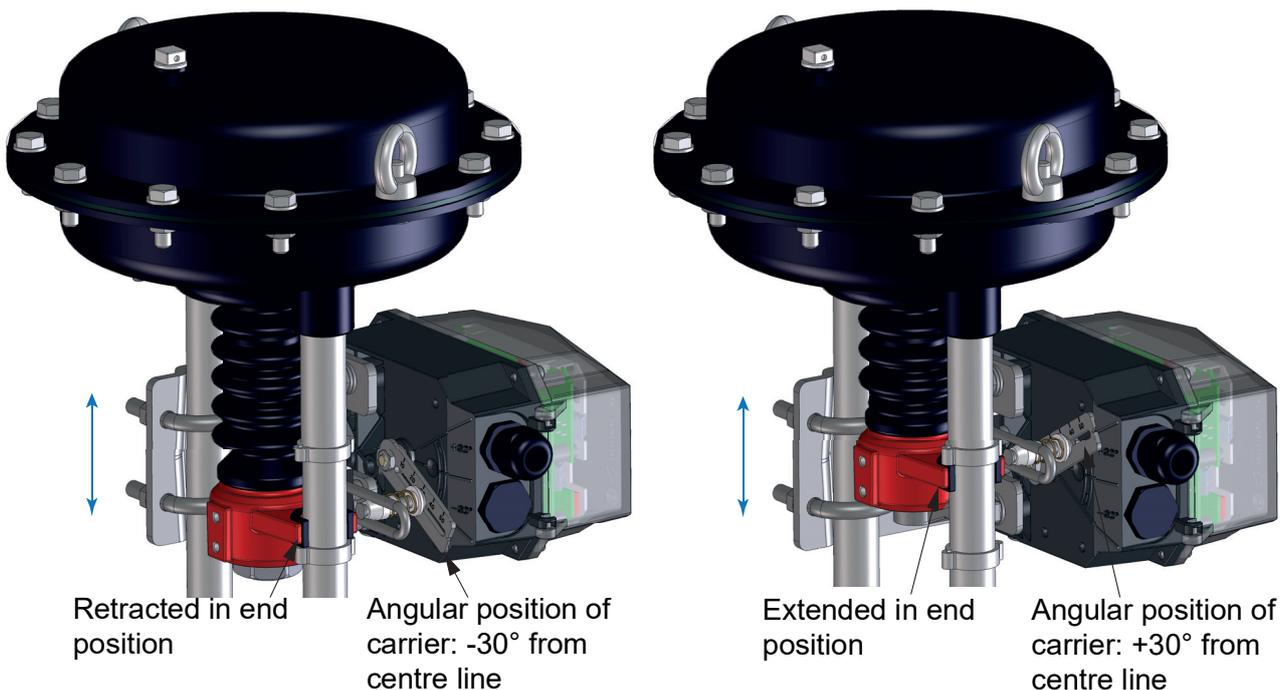

Fig. 16
7. Adjust the height of the ARI-STEVI-POS® by moving it axially along the actuator column, so that the carrier is deflected approx. 30° from the centre line (see Fig. 16) when the actuator is depressurised (valve in end position).